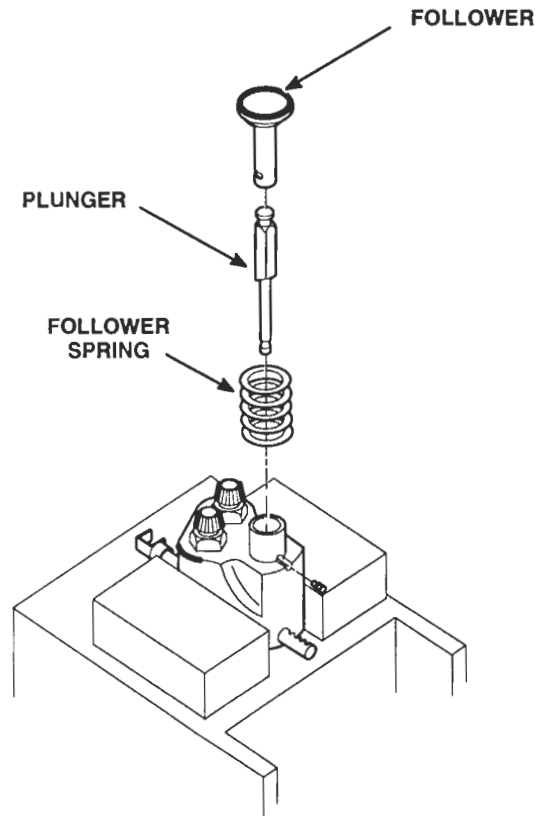

Figure 35. Injector in Position for Testing on Tester J 23010–A
1. Clamp the injector properly and purge the air from the system (Figure 35.)
1. Clamp the injector properly in Tester J 23010-A and purge the air from the system (Figure 35.)